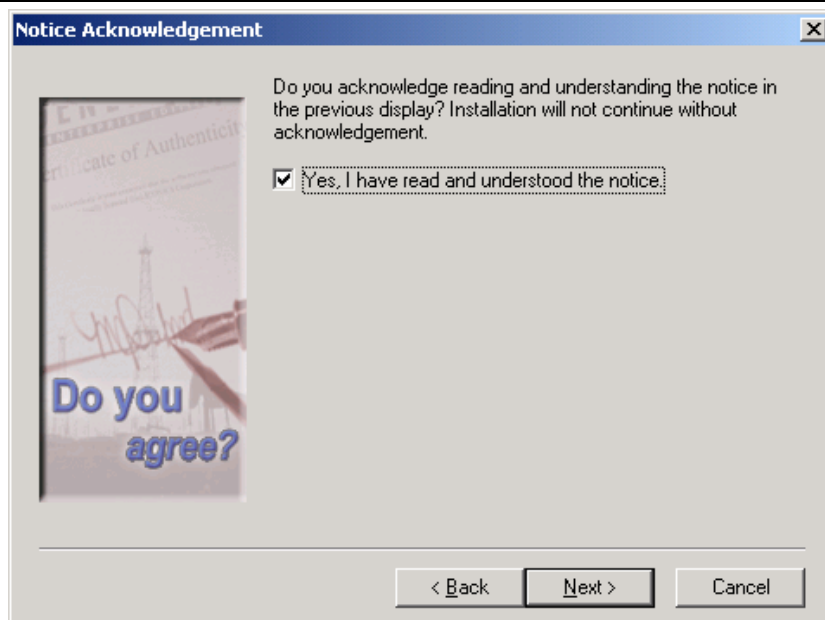

Figure 3.9. Acknowledging the License Utility Version Warning
14. In order to complete the License Utility installation, you must acknowledge that you have read the notice that was displayed in the previous screen. Check the check box and click the **Next** button to continue, as shown in **Figure 3.9**.